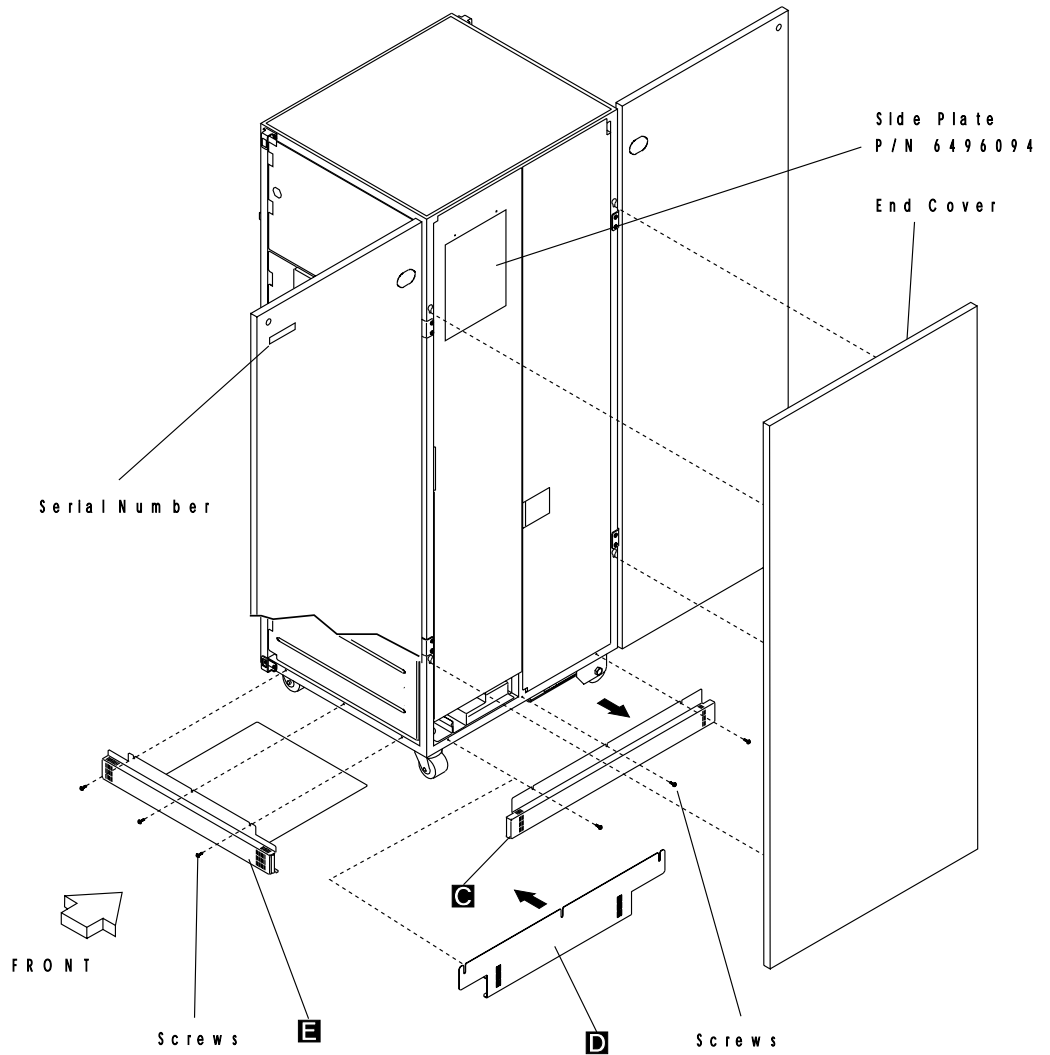

Figure 4-4. 3746-A11/A12 Expansion Unit (Front View)
- Step a. \_\_\_\_ **From the front right side of the 3746-A11**, remove the right end cover and the bottom right bracket **C** PN 65X8885 if installed (see Figure 4-4 on page 4-7). Place the bracket and cover in a safe out-of-the-way area.
- Step c. \_\_\_\_ Refer to Figure 4-4 on page 4-7 if not already done **on the 3746-A11**, loosen the two retaining screws and remove the right side plate PN 6496094 shown in the figure.
Step a. \_\_\_\_ **From the front right side of the 3746-A12**, remove the right end cover and the bottom right bracket **C** PN 65X8885 if installed (see Figure 4-4 on page 4-7). Place the bracket and cover in a safe out-of-the-way area.
Step c. \_\_\_\_ Refer to Figure 4-4 on page 4-7 if not already done **on the 3746-A12**, remove the two retaining screws and remove the right side plate PN 6496094 shown in the figure.